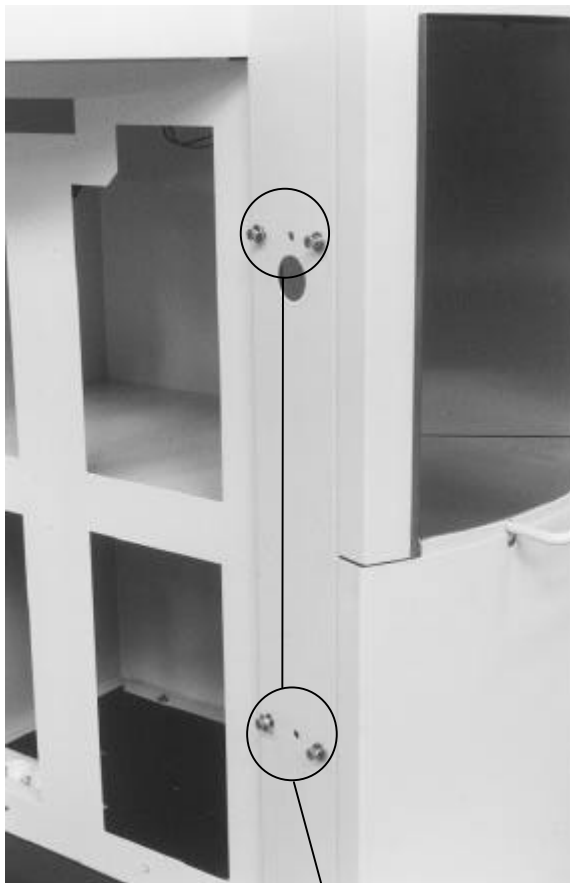

figure 6
- Turn the four fastening bolts with washers and spring washers two turns in the fastening holes in the base, as shown in figure 6.
Attach the mouse and printer stand under the monitor stand with the bolts supplied (see figure 6/7).